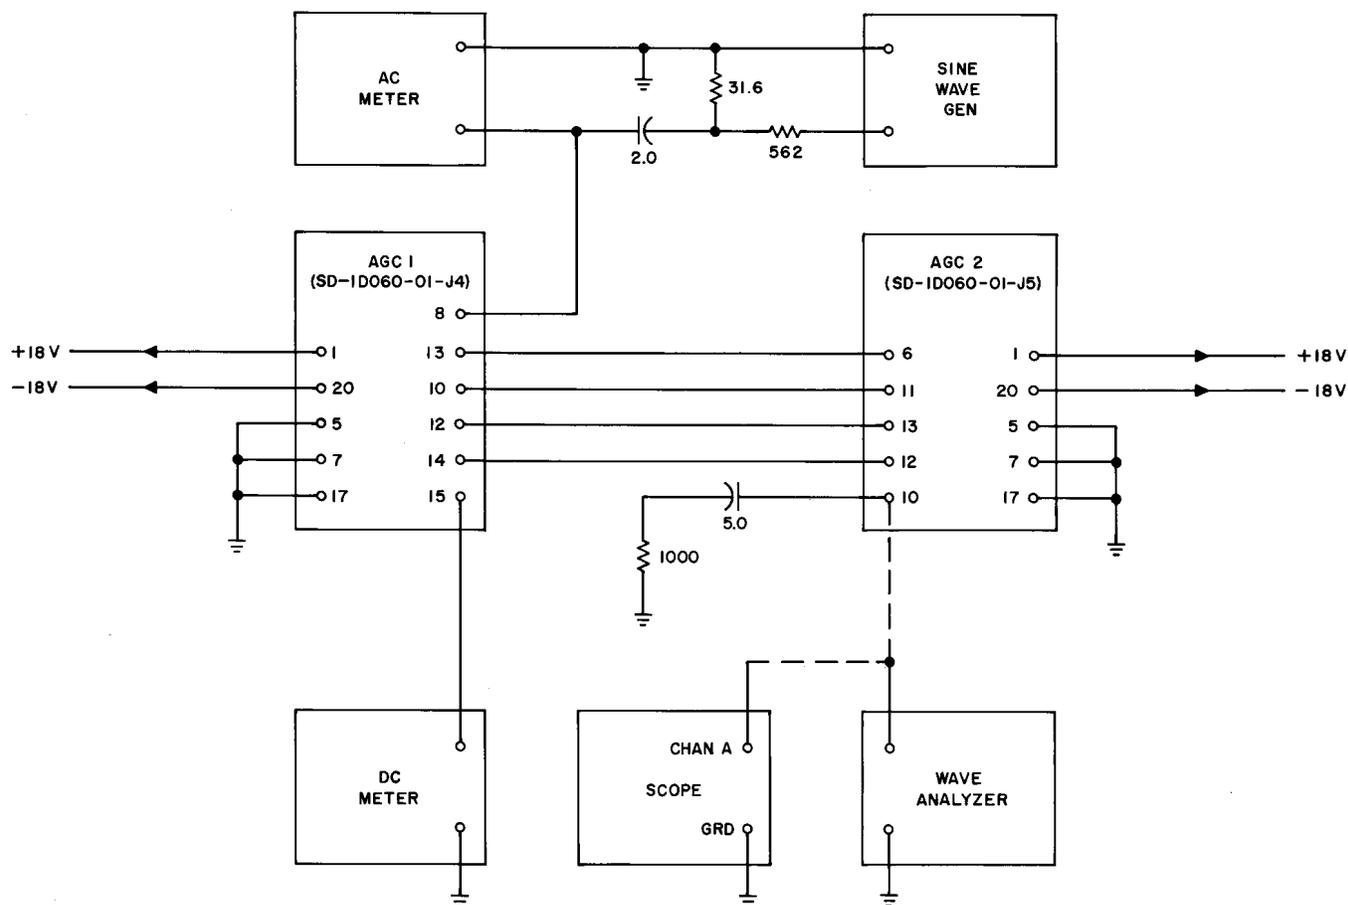

Fig. 20A — Automatic Gain Control 2 Test Circuit
(1) The gain control test of the AGC2 circuit pack is made in conjunction with the AGC1 circuit pack. Connect the circuit pack as in the suggested test circuit shown in Fig. 20A with the scope connected to terminal 10 of the AGC2 circuit pack. Apply power to both circuit packs as specified in 4.16A.
(2) Set the frequency of the sine-wave generator to 1800 Hz (± 5 percent). Set the output level of the generator to 0.
(3) Slowly increase the output level of the generator until the carrier detector voltage on terminal 15 of the AGC1 circuit pack switches to $+6.5 (\pm 0.8)$ Vdc. The input level between terminal 8 and ground of the AGC1 circuit pack shall be $13.5 (\pm 0.4)$ mV rms. Record the input level.
(1) The distortion measurement of the AGC2 circuit pack is made in conjunction with the AGC1 circuit pack. Connect the circuit pack to the suggested test circuit shown in Fig. 20A, with the wave analyzer connected to terminal 10 of the AGC2 circuit pack. Apply power to both circuit packs as in 4.16A.
(2) With the wave analyzer connected to terminal 10 of the AGC2 circuit pack, apply a 78 (± 1) mV rms signal at 600 Hz (± 5 percent) to input terminal 8 of the AGC1 circuit